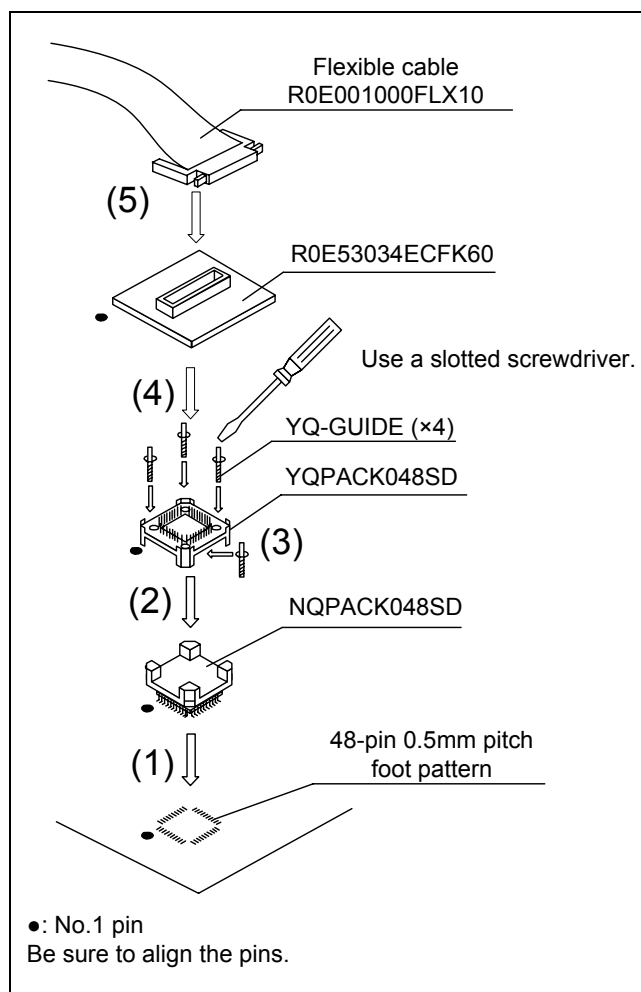

Figure 3 Connection procedure of the R0E53034ECFK60
5. Connection Procedure (See Figure 3)